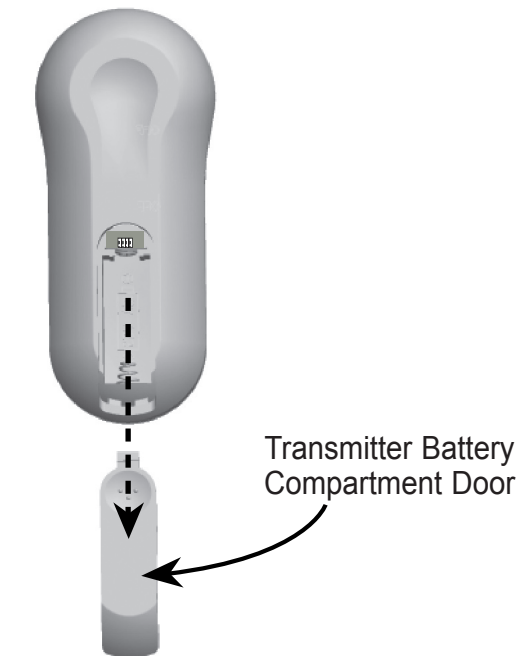

Figure 3 - Remove Transmitter Battery Compartment Door
- 4) Remove the Transmitter Battery Compartment door as shown in Figure 3.